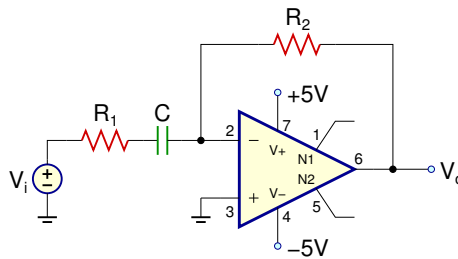

Figure 4: Pseudo differentiator circuit
Ideally, the output voltage becomes very large at very high frequencies. However, due to opamp's gain limitation at high frequencies, differentiator's gain also starts to decrease, deviating from the ideal behavior. To limit the high-frequency gain to a known value, a pseudo differentiator circuit as shown in Fig. 4 can be used.
The output voltage in Fig. 4 can be found as
1. For the first order high-pass filter in Fig. 4, derive the time-domain equation for the output in terms of the input.
1. Draw the schematics for the pseudo differentiator in Fig. 4 with the calculated component values.
1. Build the pseudo differentiator in Fig. 4 with the simulated component values.
4. For the pseudo differentiator in Fig. 4: